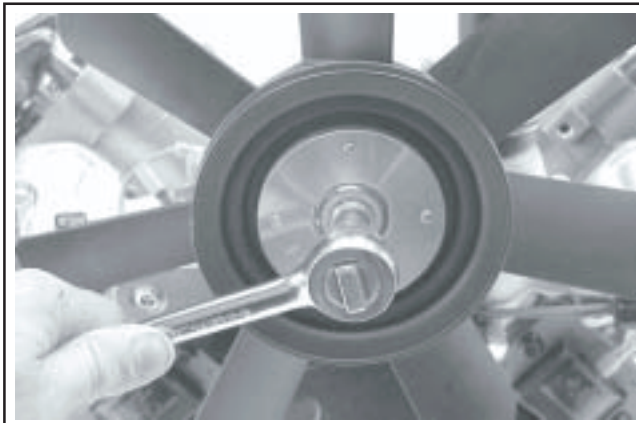

Figure 9-33. Removing Front Flange Nut and Flat Washer.
1. Remove the front hex. flange nut and washer securing the fan assembly to the fan shaft. Remove the fan and pulley assembly from the upper mounting bracket. See Figure 9-33.